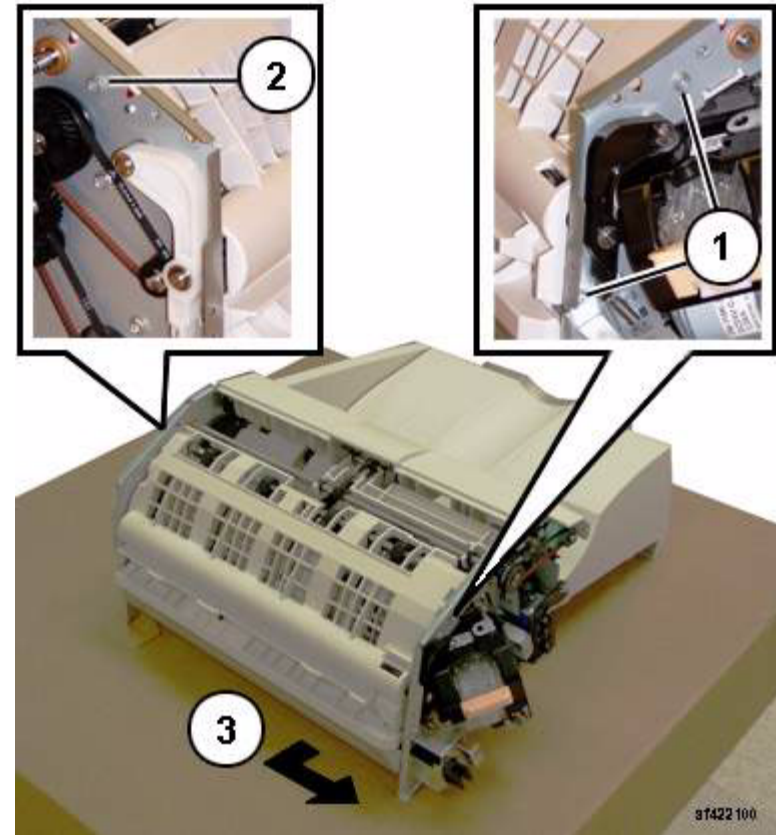

Figure 2 Removing the Upper Chute Assembly
7. Remove the Upper Chute Assembly (Figure 2):